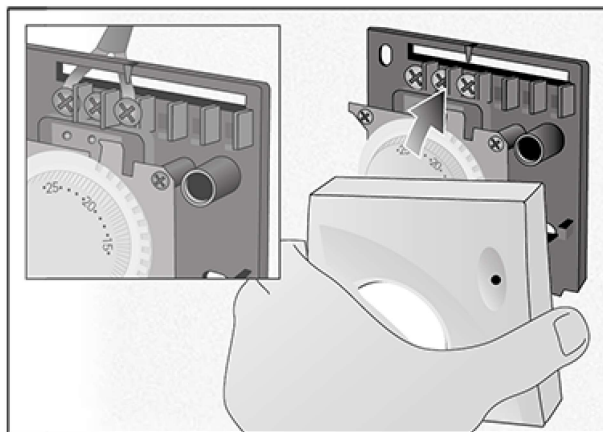

FIG. 10
C) Thread the power supply wires through the slot in the base and connect them to the terminals as per the wiring diagram sketched inside the appliance. Snap the front cover back. (fig.10)